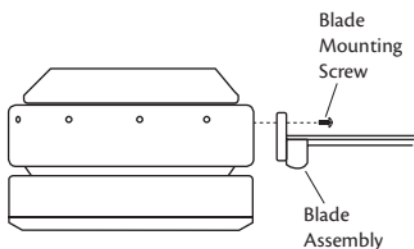

Figure 25 - Attaching the blade iron to the fan
4. For each blade, insert one blade mounting screw through the blade iron as shown in Figure 25, and attach lightly to the fan. Insert the second blade mounting screw, then securely tighten both mounting screws.